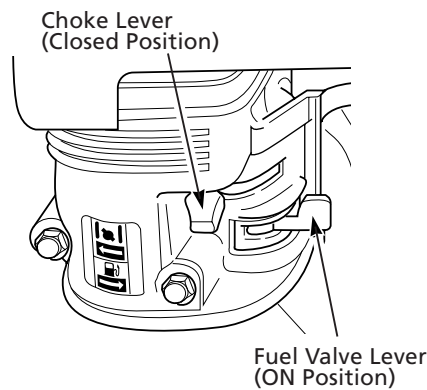
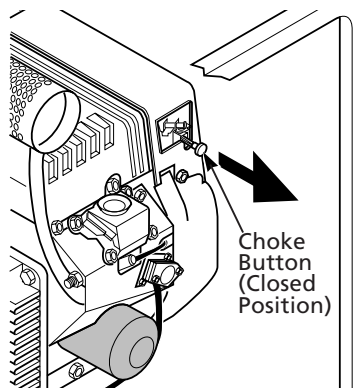

Figure 24 – Fuel Valve Lever On, Choke Lever Closed (Models 3W736C, 3WY44, 3WY46, 3TE27A, and 3WY45)
Figure 25 – Choke Button Closed (Model 3WY47 Only)
2. Move fuel valve lever to the ON position (See Figure 24).
3. Move choke lever fully to the left (See Figure 24) or pull choke button out (Model 3WY47 only, See Figure 25). This closes the choke.